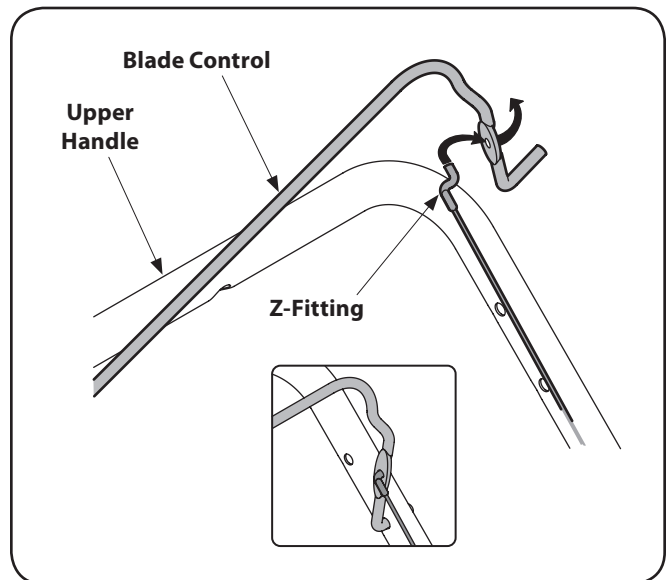

Figure 3-6
1. To make it easier to attach the Z fitting, temporarily remove the left side of the blade control as shown in Figure 3-6.
2. Hook the "Z" end of the brake cable into the hole in the blade control handle from the inside to the outside as shown in Figure 3-6.